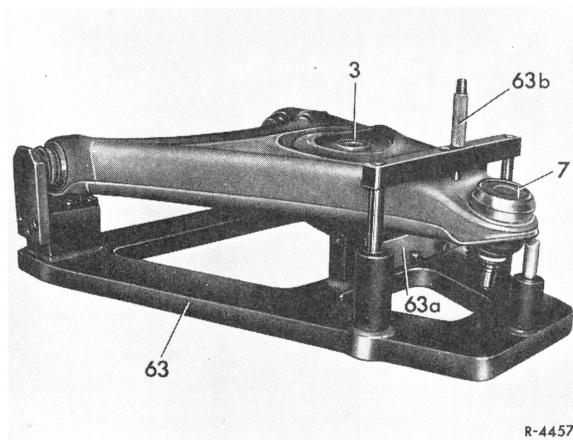

Fig. 1
1 To check for bending and non-parallelism, place the complete control arm with rubber mounts in the special device (63) (Fig. 1).